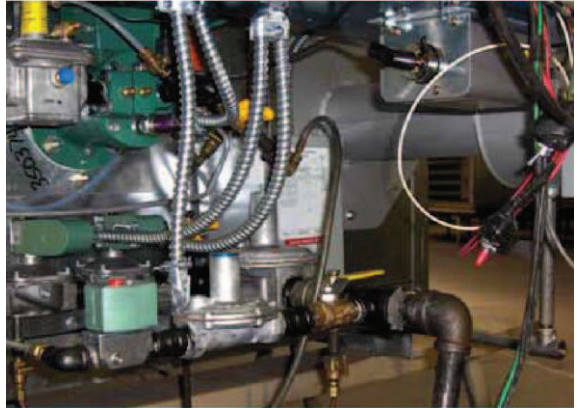

FIGURE 25 - CHECK MAIN GAS SUPPLY PRESSURE
9. Measure the gas supply pressure coming into the gas train as shown in *Figure 25 on page 35*. Gas pressure can be greater than shown on the burner test report, but it must be between the min./max. values listed in *Table 6 on page 39*.